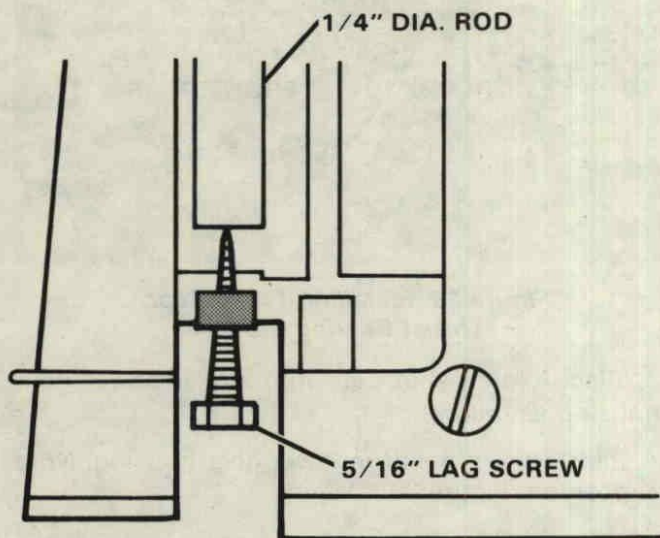

Figure 31. Removing Shift Rod Seal.
- B. Press both seal and lag screw out of seal bore. Figure 31.